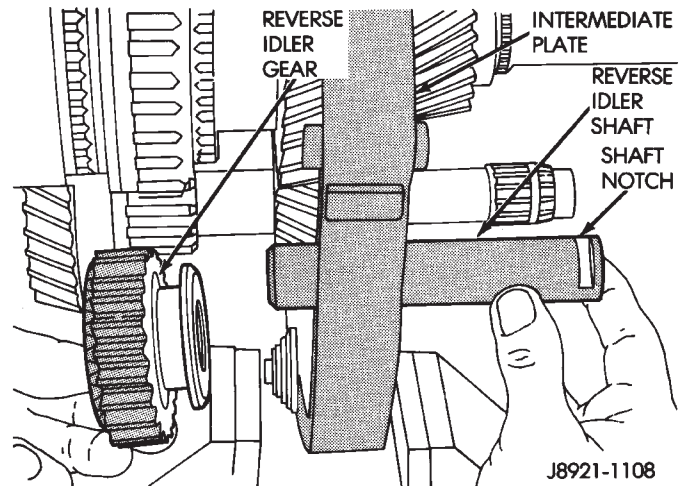

Fig. 83 Installing Reverse Idler Gear And Shaft
(7) Install reverse idler gear and shaft (Fig. 83).